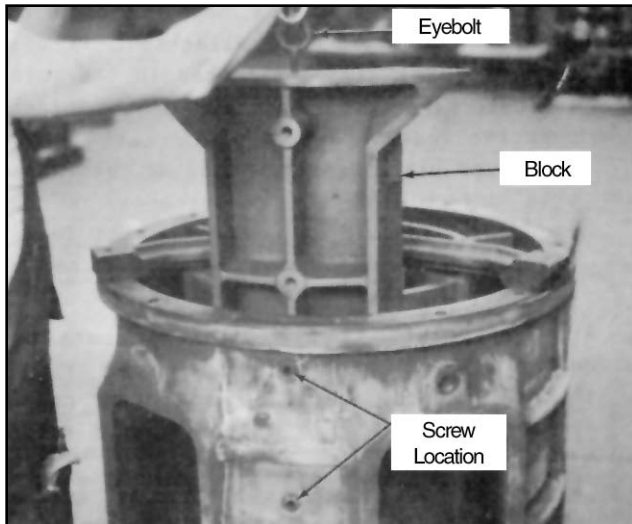

Figure 19
2. Normally it is not necessary to remove the block from the meter case. However, if it is desired, the block can be taken out by removing the screws from the side of the housing and lifting out the block with an eye bolt and a lifting device, Figure 19.